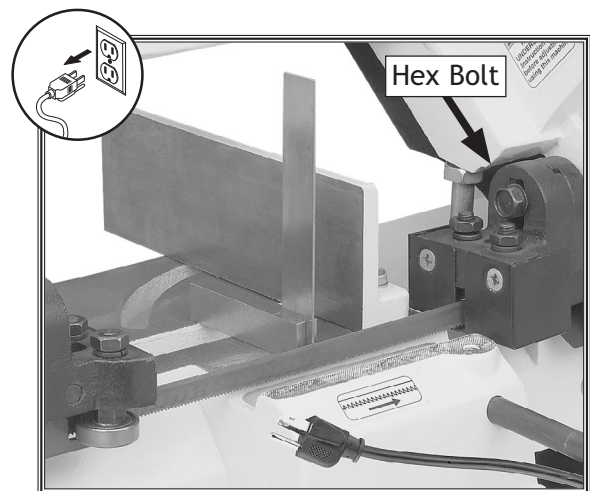

Figure 49. Squaring the blade.
3. Place a square on the table bed and against the edge of the blade (**Figure 49**), and check different points along the length of the table between the blade guides.
4. Loosen the hex bolt shown in **Figure 49**, and rotate the seat until the blade is vertical to the bed, then re-tighten the hex bolt.